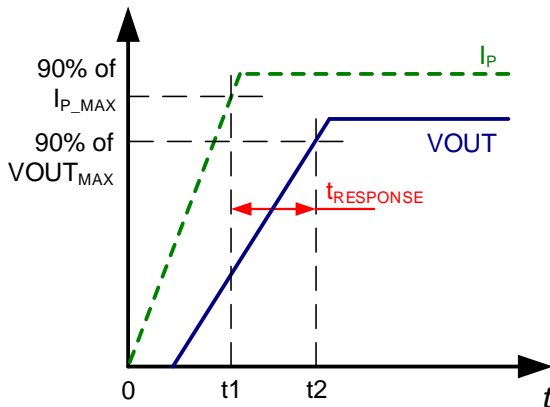

Figure 8: Response Time ($t_{RESPONSE}$)
2. t_2 : V_{OUT} reaches 90% of its output, as it corresponds to the applied primary current (see Figure 8).